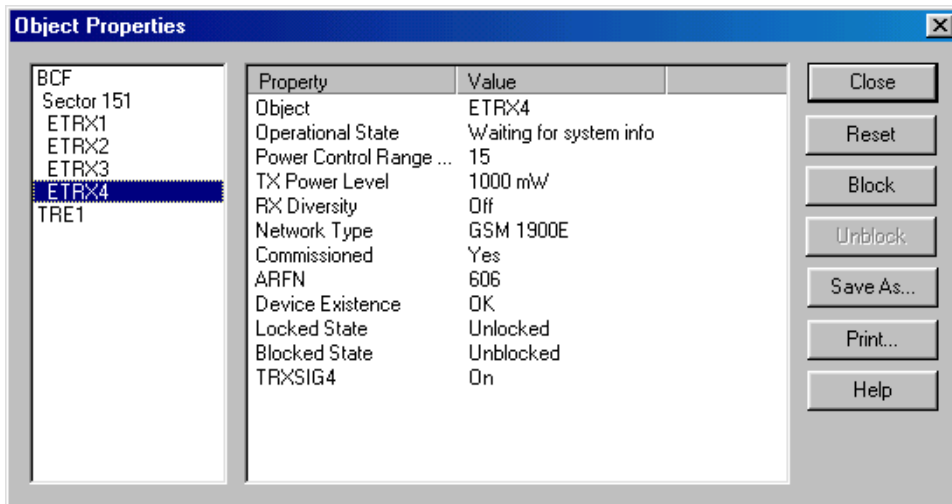

Figure 10. Example of blocking a TRX in Nokia BTS Manager
- Block the TRX using Nokia BTS Manager (if the sector is not already locked from the BSC). In the *Supervision - Equipment View* window, right click on the TRX image and select the BLOCK button in the *Object Properties* dialogue window (see Figure 10).